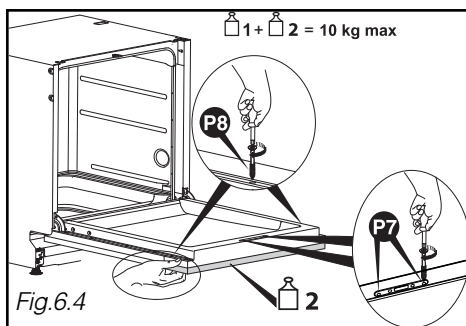

Fig. 6.4
- Open the dishwasher's door while holding the false drawer front up against the door. Centre the wood panel at the sides with respect to the door panel. Insert the 2 screws **P7** and the 2 screws **P8** (Fig. 6.4).